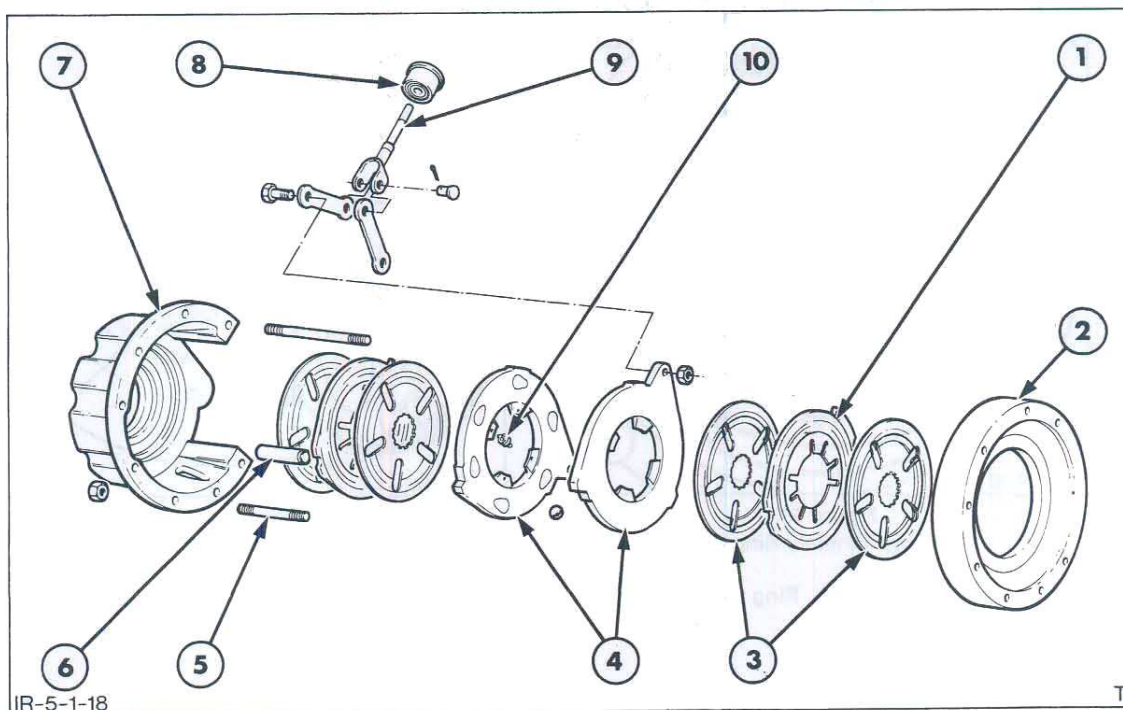

Figure 18
1. Detach the brake control rod and actuating links by removing the cotter pins, clevis pins and nuts, Figure 18.